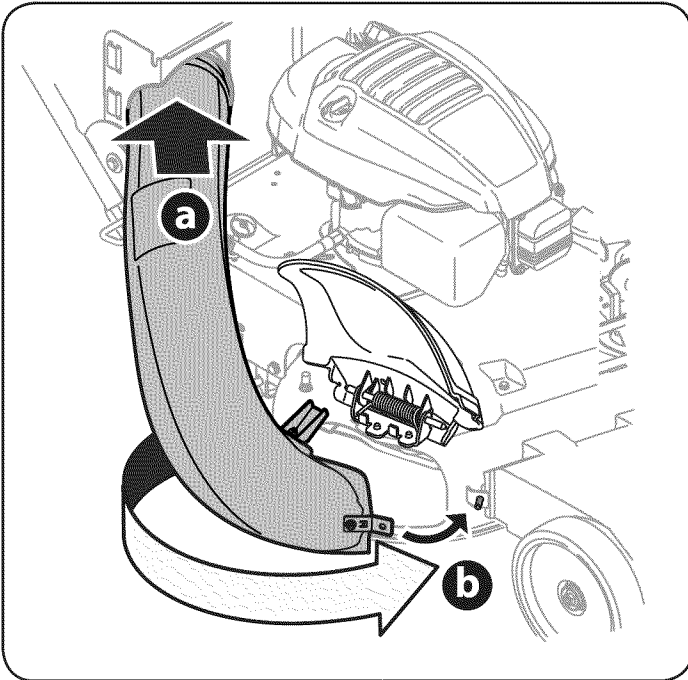

Figure 9
3. Insert the top of the chute into the opening of the grass bagger support bracket. See (a) in Figure 9.
4. Pivot the chute towards the mowing deck and over the opening in the side of the mowing deck. See (b) in Figure 9.